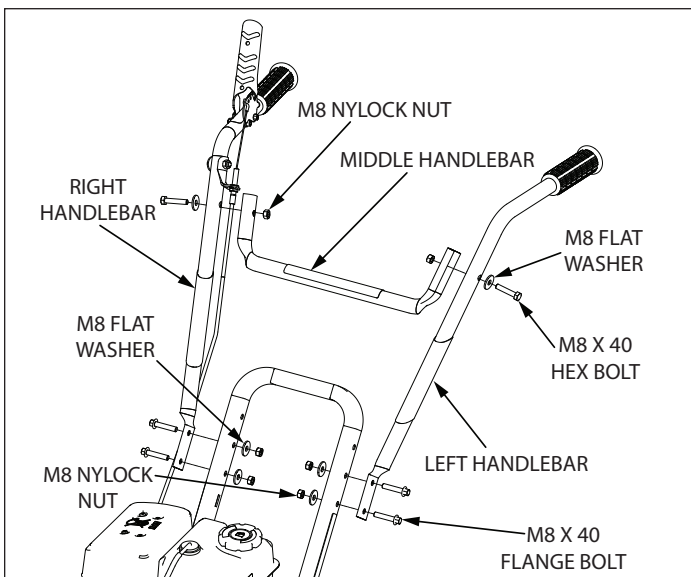

FIGURE 11
X 40 Flange Bolts, two M8 Flat Washers, and Two M8 Nylock Nuts and hand tighten. Repeat for left handlebar. **SEE FIGURE 11**
13. Align middle handlebar with mount holes of right and left handlebars. Secure middle handlebar with two M8 X 40 Hex Bolts, two M8 Flat Washers, and two M8 Nylock Nuts. Tighten all handlebar hardware with two 13 mm wrenches and one 10 mm wrench. **SEE FIGURE 11**